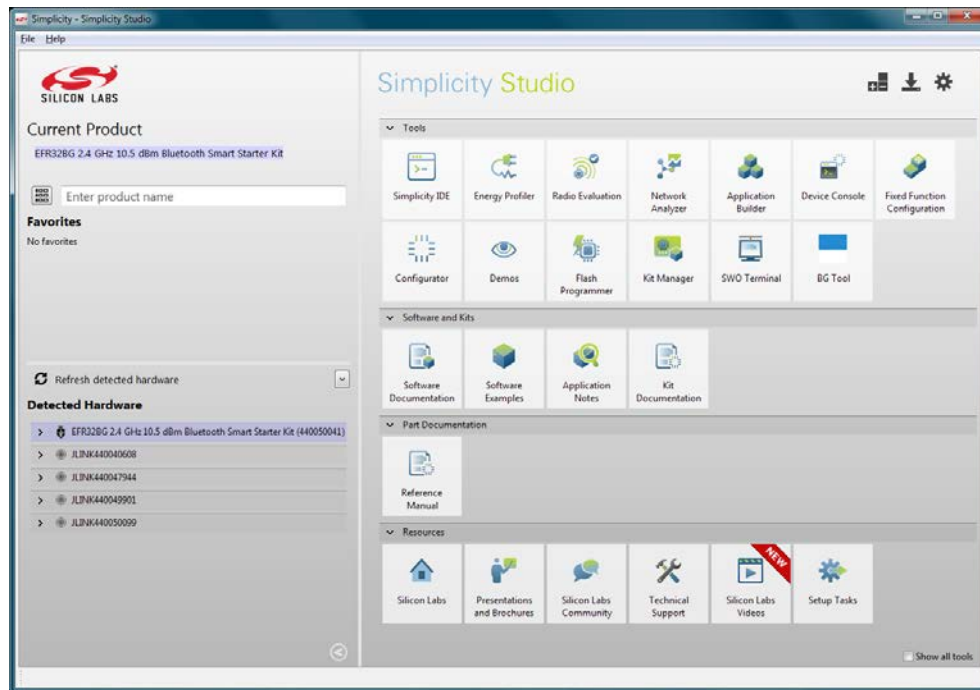

Figure 11. Simplicity Studio's Simplicity Perspective
- In the New Example dialog shown below, enter the kit, part, and SDK. Kit and part will be filled by Simplicity Studio if the hardware was detected and displayed in the Simplicity perspective (Figure 11).